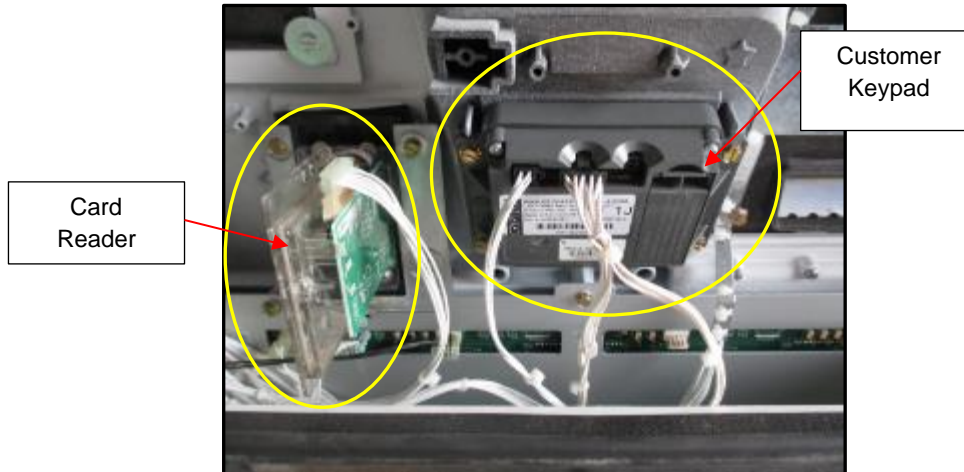

Fig 1.5a – Encore 500S Location of Card Reader and Customer Keypad
**Retrofit G6-300 + InvencoLink GVR Encore 500S 700S (US) Installation Guide**
7. Unplug the Customer Keypad and Card Reader assembly cables. (Fig 1.5a and 1.5b)